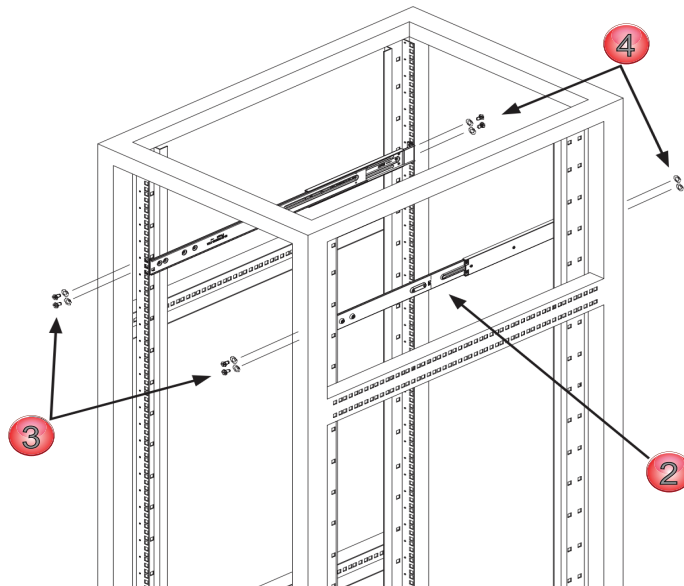
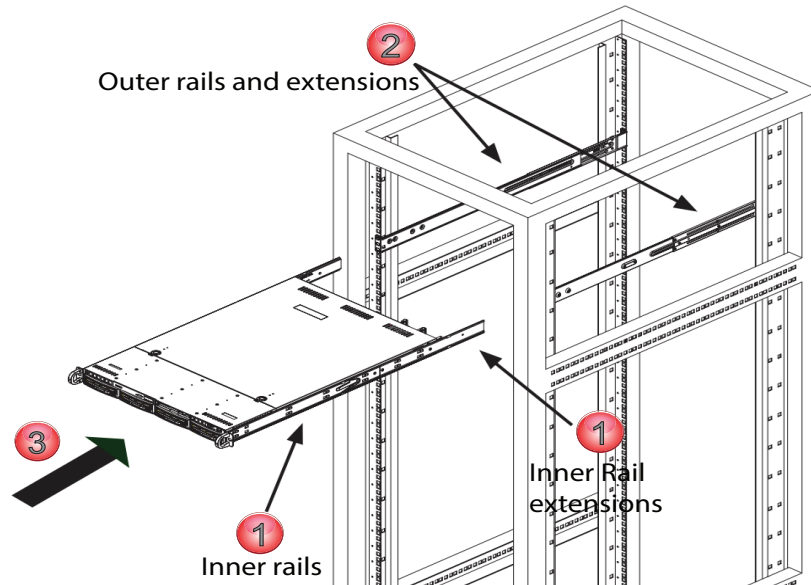

Figure 4-4: Install Outer Rails to Rack
Figure 4-5: Install Chassis to Rack
NOTE: The illustrations in Figure 4-4 and Figure 4-5 are for general guidance purposes only. Always install the Device chassis to the bottom of the rack first to avoid the rack becoming top heavy.
2. Adjust both sections of the outer rail to the proper length so that the rail fits snugly within the rack, Figure 4-4.